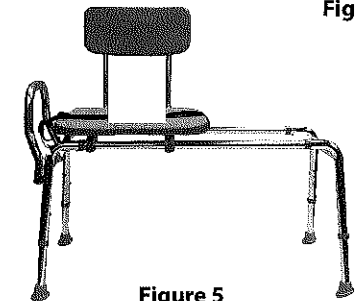

Figure 5
9. Sit the bench up on the legs. Insert the backrest (Part F) into the tubes underneath the seat while depressing the two brass push buttons on the frame of the backrest. Continue to push in the backrest until the brass push buttons snap firmly into place. *See Figure 5.*